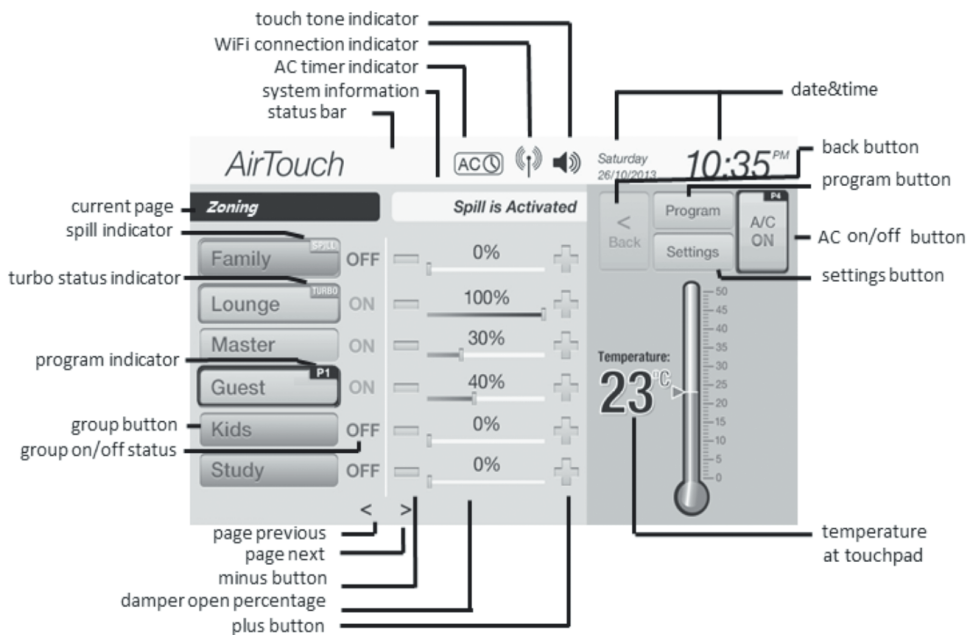
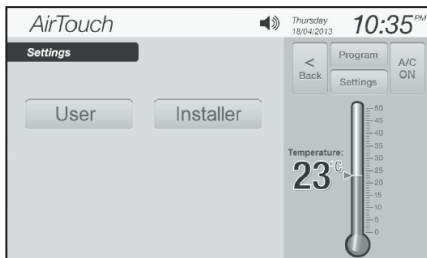

Figure 1: Home Screen
Figure 14.
The home screen of the AirTouch's touch screen will normally display groups' status, dampers' open percentage with adjusting buttons, date, time, room temperature, Wi-Fi (if available) logo, AC status, touch tone status and AirTouch logo as shown in Figure 1.
If an AC unit is connected to AirTouch, it can be turned on/off on the home screen of AirTouch. The 'A/C' button (Figure 1) shows the AC status. Touching the button will switch the AC unit on or off.
- Touch **Settings** on the home screen (Figure 1) enter “Settings” screen (Figure 14)
- a) On 'Settings' screen (Figure 14), touch **User** and then touch **WiFi Setup** to enter the 'Wi-Fi Setup' screen.